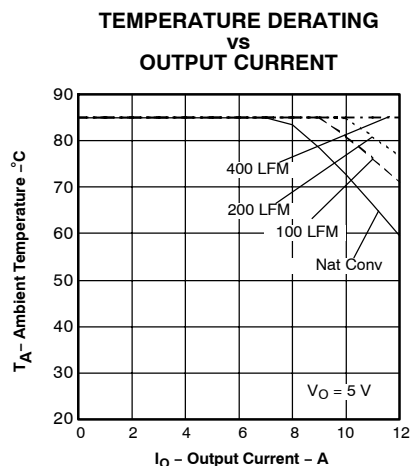
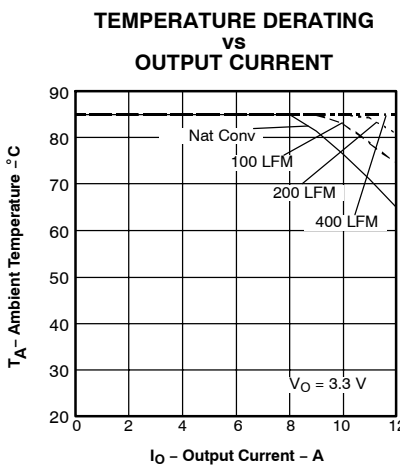
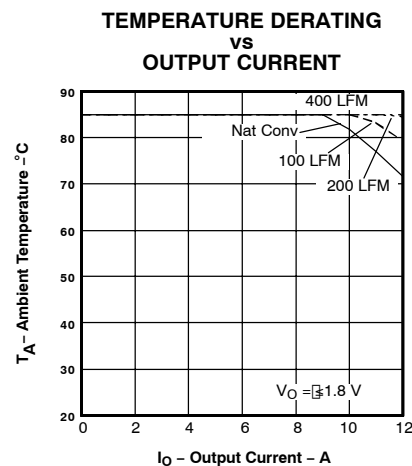

Figure 4.
Figure 5.
Figure 6.
- (22) The temperature derating curves represent the conditions at which internal components are at or below the manufacturer's maximum operating temperatures. Derating limits apply to modules soldered directly to a 4 inch × 4 inch double-sided PCB with 2 oz. copper. For surface mount packages (AS and AZ suffix), multiple vias (plated through holes) are required to add thermal paths around the power pins. Please refer to the mechanical specification for more information. Applies to Figure 4, Figure 5, and Figure 6.